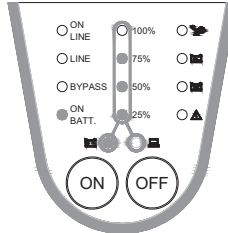

Fig. 4-4 On-Battery Mode
- ✓ **ON-BATTERY Mode:** When the UPS is in “ON-BATTERY Mode”, the on- battery LED will light on and the buzzer will beep for half seconds every 2 seconds. Then, the UPS will start supplying power to the load through batteries. See Fig. 4-4.